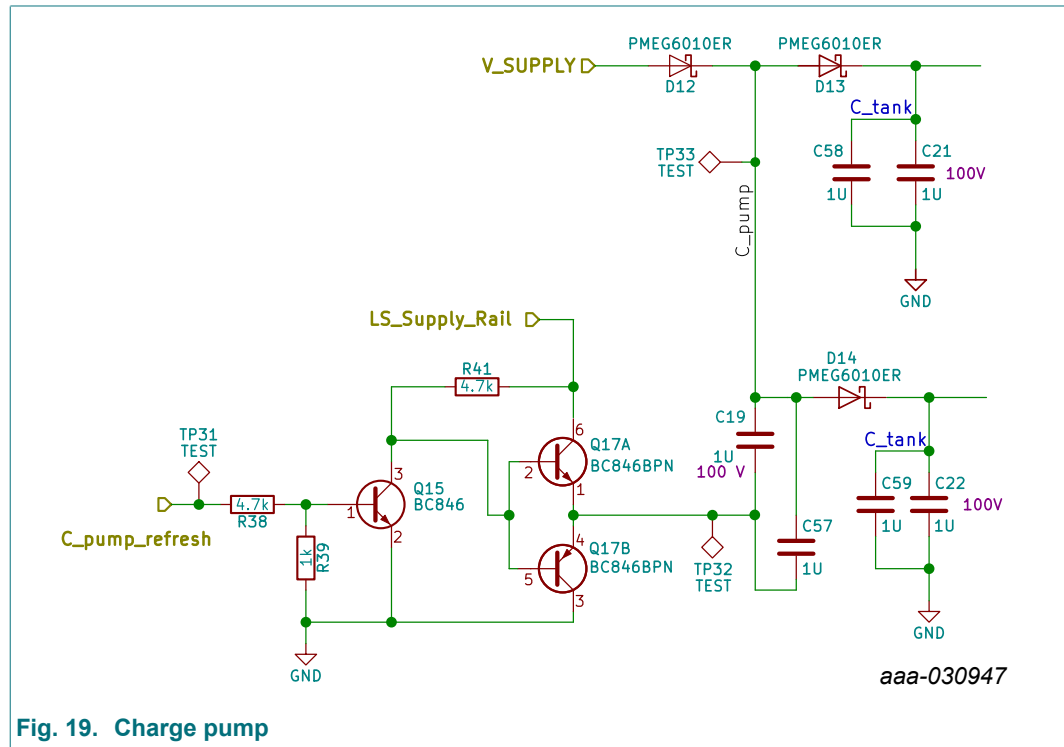

Fig. 19. Charge pump
- 62.5 kHz to drive the charge pump circuit (see Fig. 19)